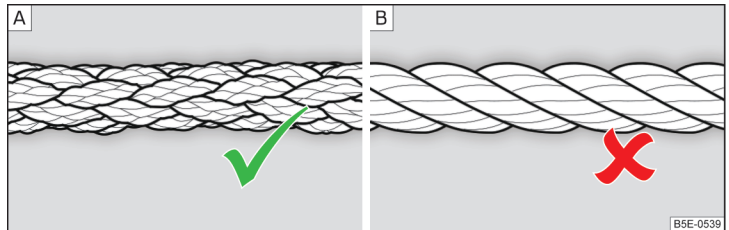

Fig. 327 Braided tow rope / Spiral tow rope
For towing using a tow rope, use only a braided synthetic fibre rope » Fig. 327 - **A** » **!**.
- Wound tow ropes must not be used for towing » Fig. 327- [B], the towing eye may unscrew out of the vehicle - risk of accident.